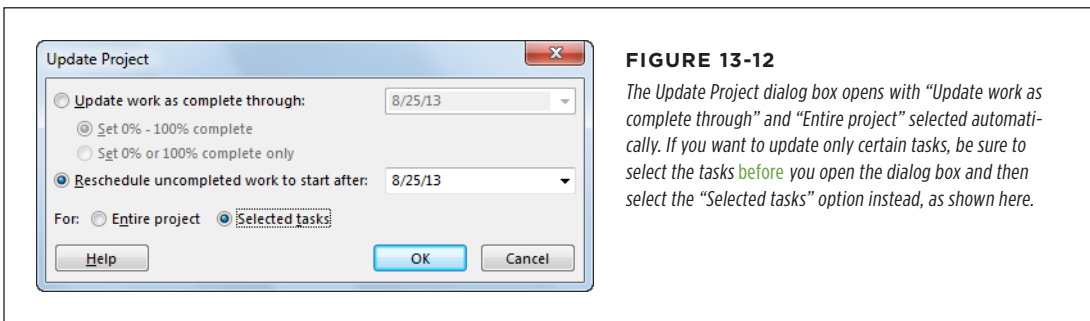

FIGURE 13-12
3. Select the "Reschedule uncompleted work to start after" option shown in Figure 13-12, and then type the date when work should resume.